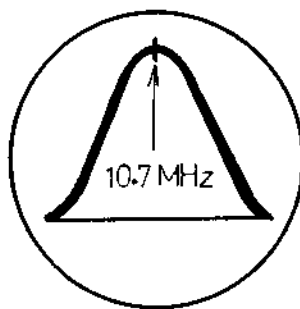

Fig. 8
- b. Align the L5, 11, 13 so that the maximum sensitivity and symmetrical wave mode will be obtained setting the marker 10.7MHz on the peak. (Refer to Fig. 8)